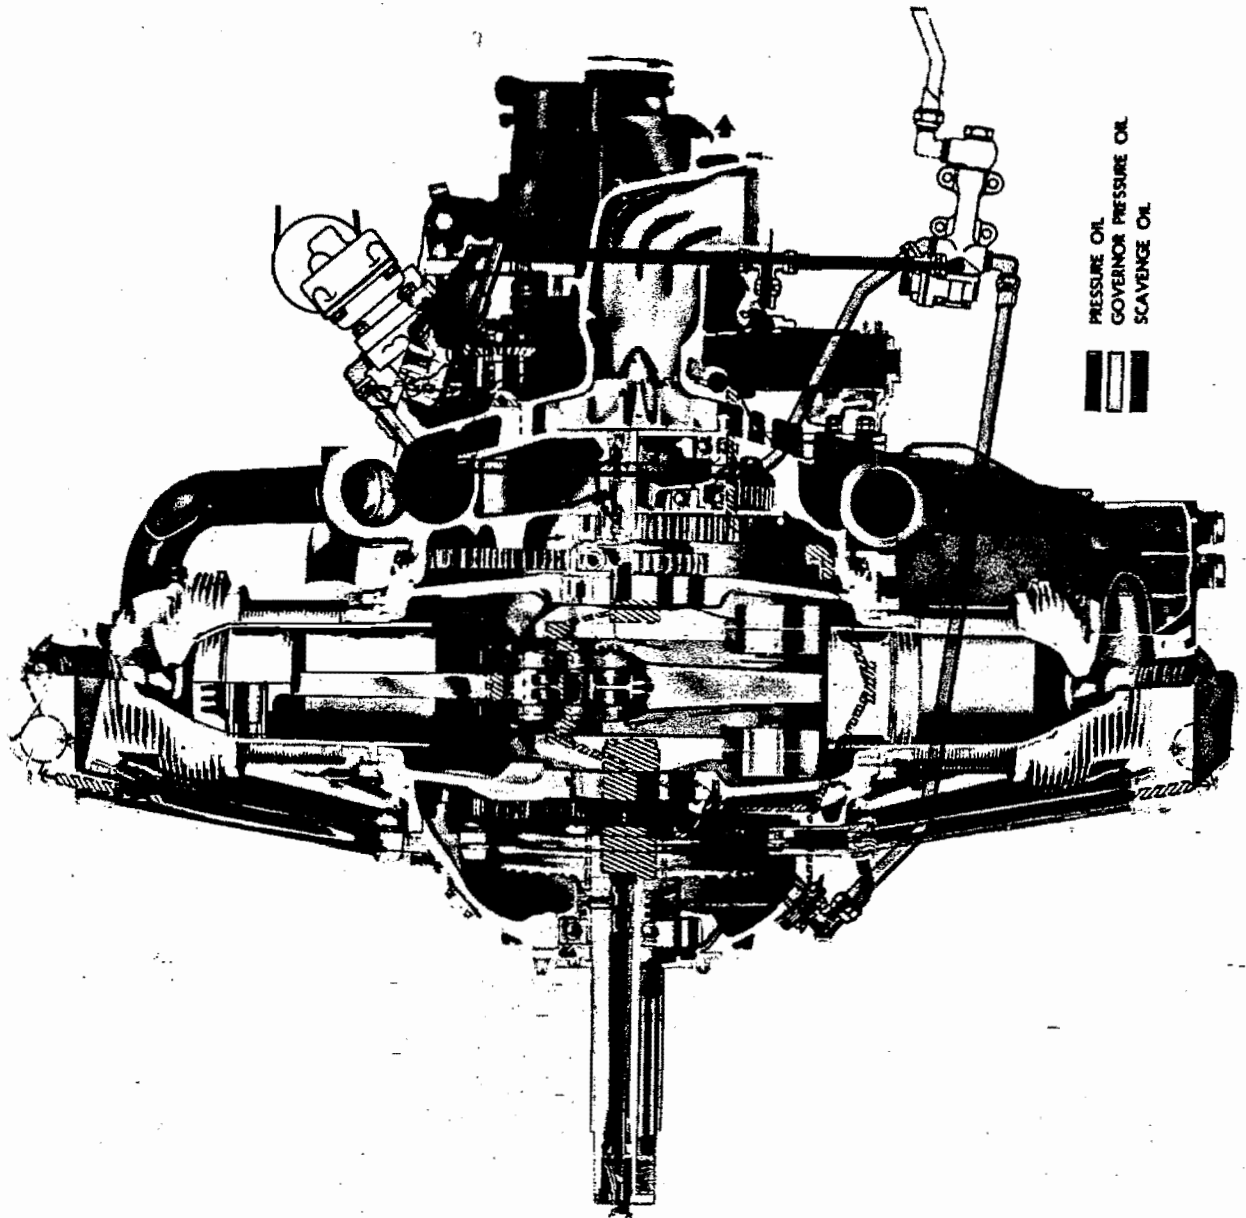

Figure 2-27. Lubrication Chart
**2-44. LUBRICATION** [Figures 2-27 and 2-28].